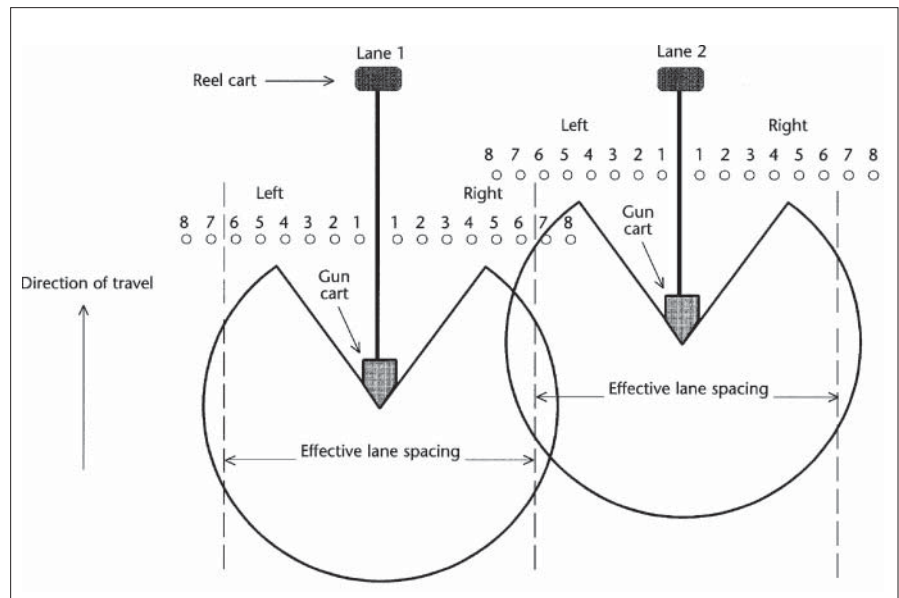

Figure 36-10. Calibration setup for hard-hose travelers.
Traveling gun systems. Hard-hose and cable tow traveling guns are calibrated by placing a row (transect) of collection containers or gauges perpendicular to the travel direction (Figure 36-10). The outer gauge on each end of the row should extend past the farthest distance the gun will throw wastewater to ensure that the calibration is performed on the “full” wetted diameter of the gun sprinkler. Multiple rows increase calibration accuracy.
Containers should be spaced no further apart than 1/16 of the wetted diameter of the gun sprinkler not to exceed 25 ft. At least 16 gauges should be used in the calibration. A minimum of 16 gauges should be used to calibrate hard-hose travelers except where the wetted diameter from large guns exceeds 400 ft. (The maximum recommended spacing between gauges is 25 ft × 16 = 400 ft.) As Figure 36-10 shows, gauges should be set at least one full wetted diameter of throw from either end of the travel lane.
4. As labeled and shown in Figure 36-10, set out gauges along a row equally spaced at the distance determined in Item 2 (20 ft). The row should be at least one wetted diameter from either end of the pull. The first gauge on each side of the travel lane should be 1/2 of the gauge spacing from the center of the lane. For a gauge spacing of 20 ft, L1 and R1 should be 10 ft from the center of the lane.
7. Identify those gauges that fall outside the effective lane spacing (Figure 36-10). This volume is the overlap volume that is collected when the system is operating on the adjacent lane.
For the layout shown in Figure 36-10, add the volume (depth) collected in gauge R8 (outside the effective lane spacing) to volume (depth) collected in gauge L5 (inside the effective lane spacing). Similarly, R7 is added to L6; L8 is added to R5; and L7 is added to R6. This is now the application volume (depth) within the effective lane spacing adjusted for overlap.